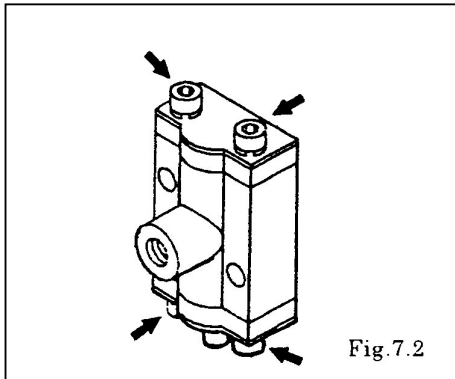

Fig.7.2
- Remove the 2 retainer bolts from the cap, and remove the reinforcement plate A, cap and reset button. [Fig. 7.2]